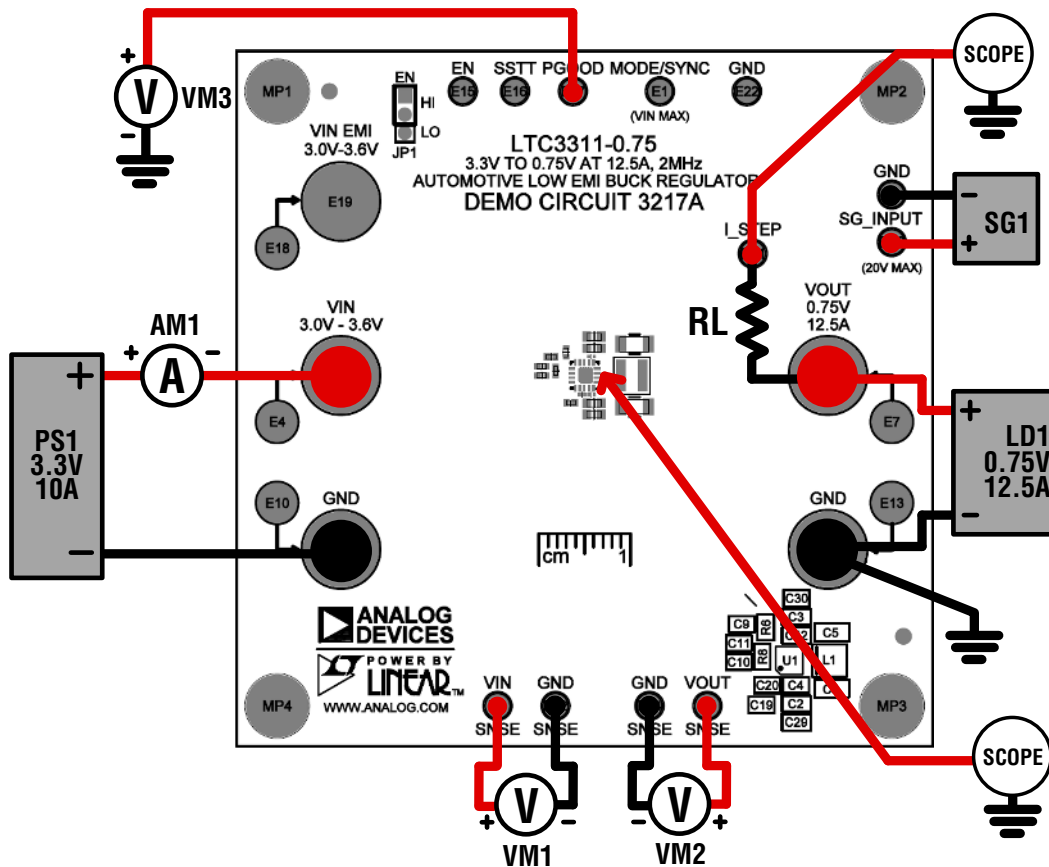

Figure 2. Test Setup for DC3217A Demo Board
Refer to Figure 2 for the proper measurement equipment setup and follow the procedure below:
NOTE: For accurate V_{IN} , V_{OUT} and efficiency measurements, measure V_{IN} at the VIN SNSE and GND SNSN turrets, and measure V_{OUT} at the VOUT SNSE and GND SNSE turrets as illustrated as VM1 and VM2 in Figure 2. When
- To test the transient response with a base load, add the desired resistor to produce a minimum load between VOUT and I_STEP turrets (R_L shown on Figure 2). Note that the total load resistance will be R_L plus R10 (10mΩ). Adjust a signal generator with a 10ms period, 10% duty cycle and an amplitude from 1V to 2V to start.